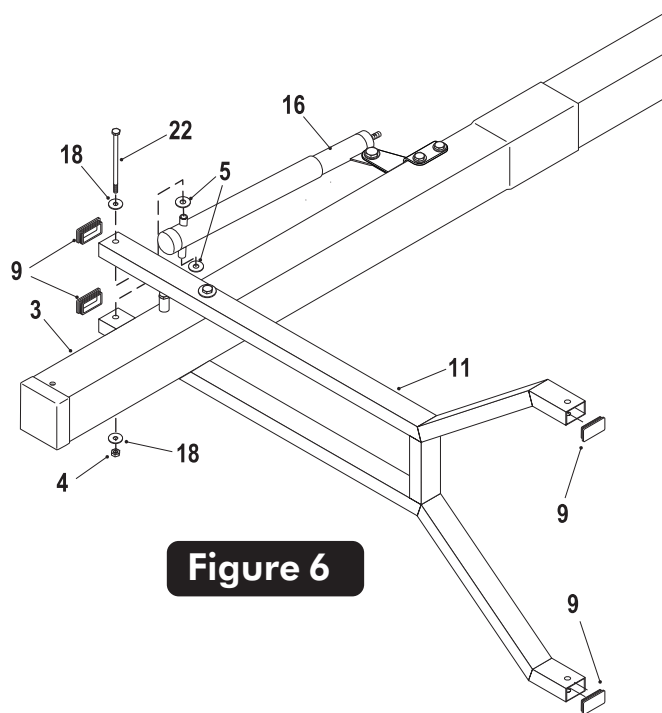

Figure 6
9. Secure Actuator (#16) to Lower Arms (#11) using one bolt (#22), two flat washers (#18), two plastic washers (#5) and one lock nut (#4). See Figure 6. Tighten both bolts (#22) securing Lower Arm (#11).
10. Insert four Tube Plugs (#9) into open ends of Lower Arms (#11). It may be necessary to use a rubber mallet to tap them in. See Figure 6. **Note: Tube plugs may be pre-installed by the factory.**